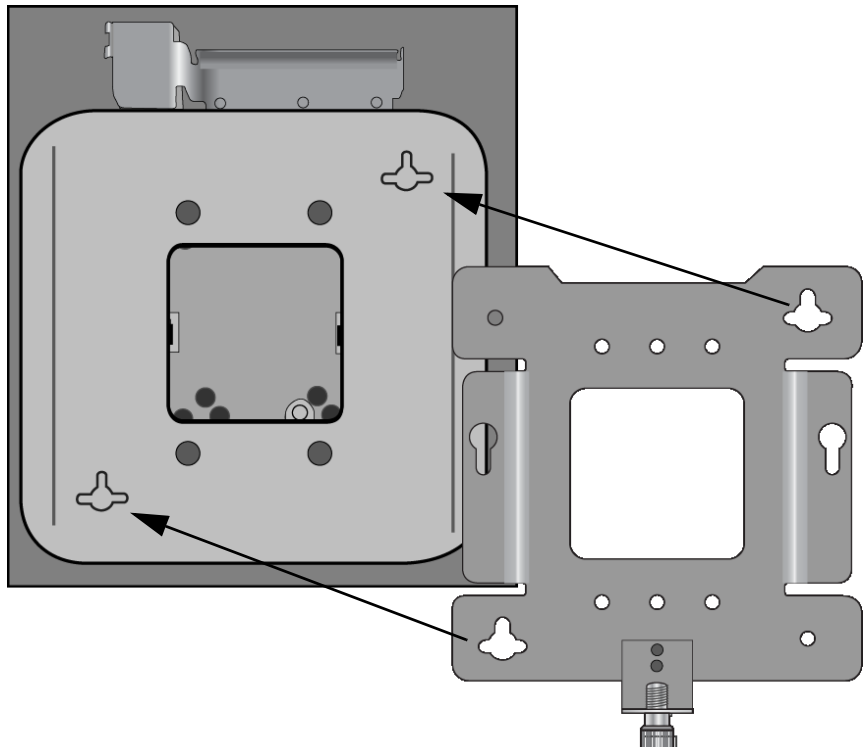

Figure 18. Placing the TQ Bracket on the Cover
1. Place the TQ bracket on the cover on the BRKT-CONV-AP1 bracket. The bracket can be installed only one way. The keyhole outlines on the cover show the correct orientation for the TQ bracket. Refer to the Figure 18.